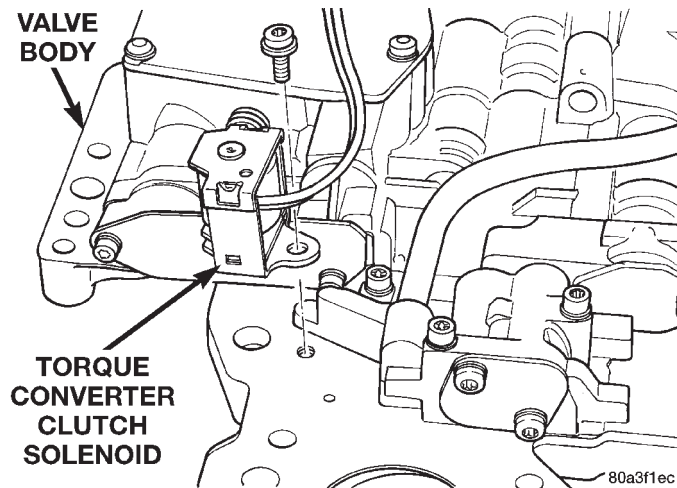

Fig. 45 Converter Clutch Solenoid
(11) Remove converter clutch solenoid from separator plate (Fig. 45). A T25 torx bit is required to remove solenoid attaching screw.